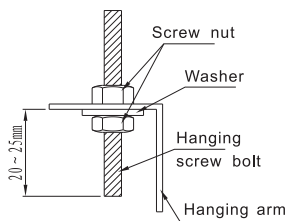

Fig 14
- Locate the hanging arm on the hanging screw bolt (Refer to Fig14)